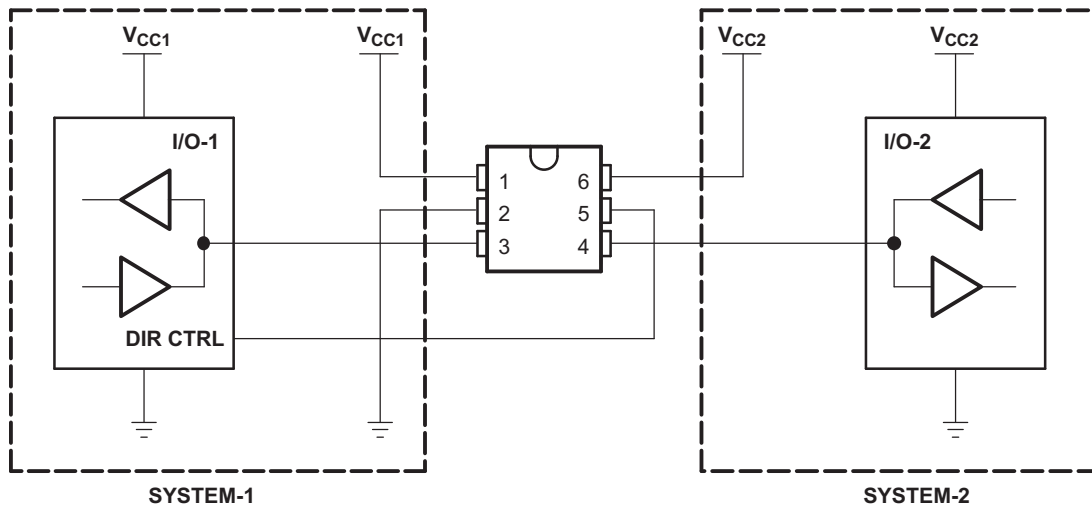

Figure 14. Bidirectional Logic Level-Shifting Application Diagram
Figure 14 shows the SN74AVCH1T45 being used in a bidirectional logic level-shifting application. Because the SN74AVCH1T45 does not have an output-enable (OE) pin, the system designer should take precautions to avoid bus contention between SYSTEM-1 and SYSTEM-2 when changing directions.